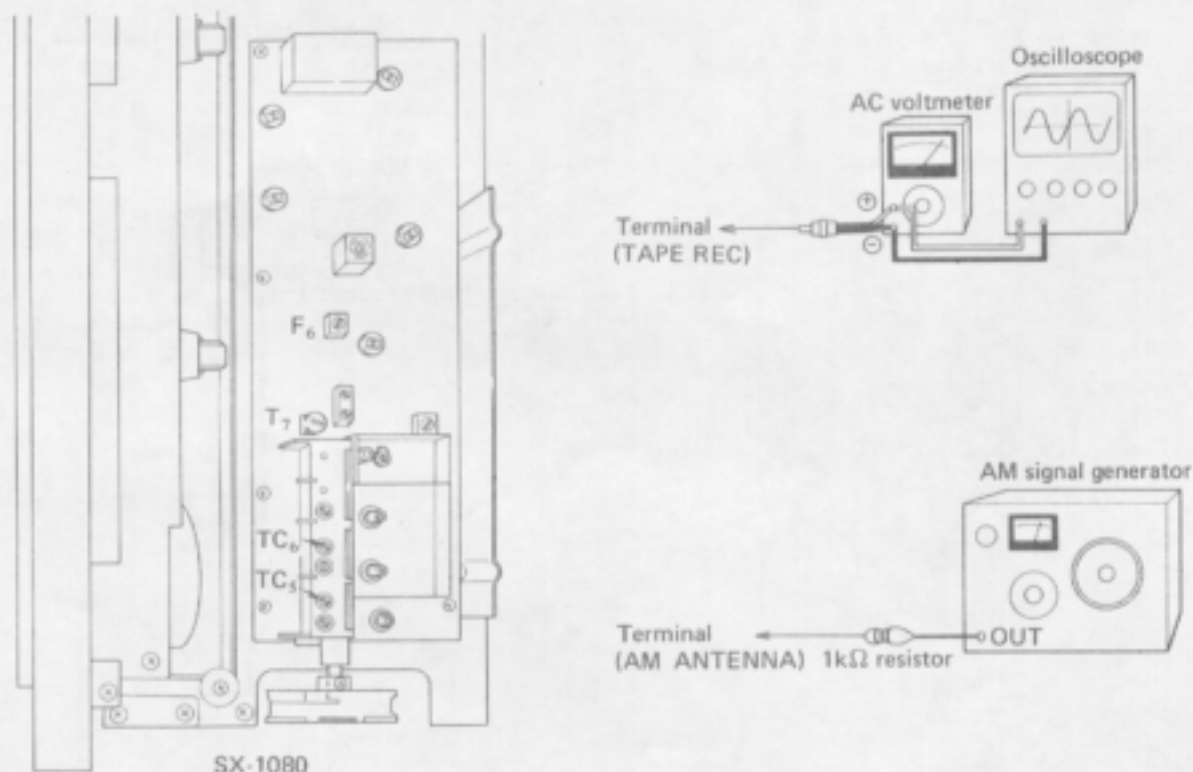

Fig. 9 Connection of AM tracking adjustment
- Connect as shown in Fig. 9, and set the FUNCTION switch to "AM".